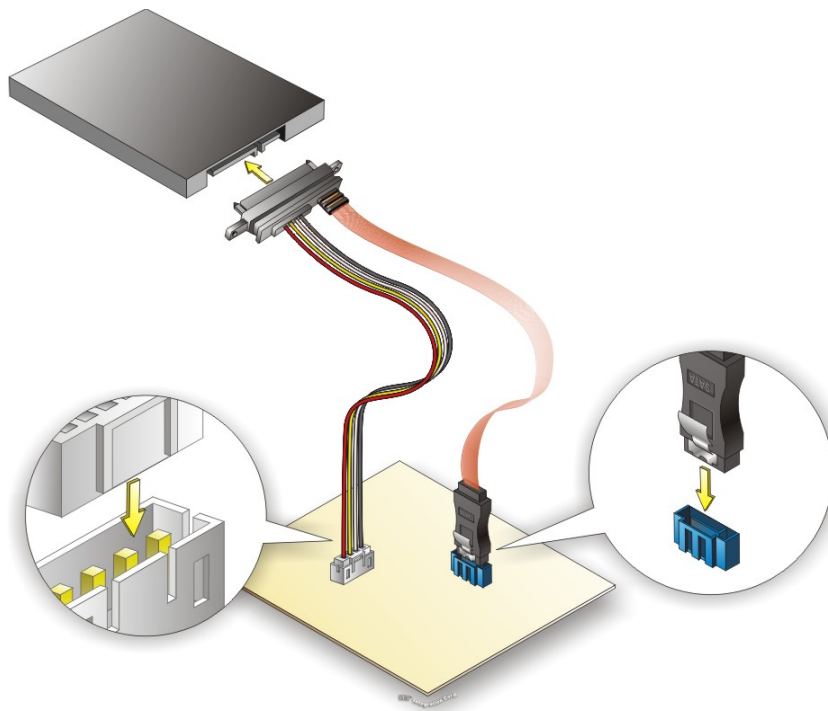

Figure 4-21: SATA Drive Cable Connection
Step 2: Insert the cable connector. Insert the cable connector into the on-board SATA drive connector and the SATA power connector. See **Figure 4-21**.
- Step 3:** **Connect the cable to the SATA disk.** Connect the connector on the other end of the cable to the connector at the back of the SATA drive. See **Figure 4-21**.